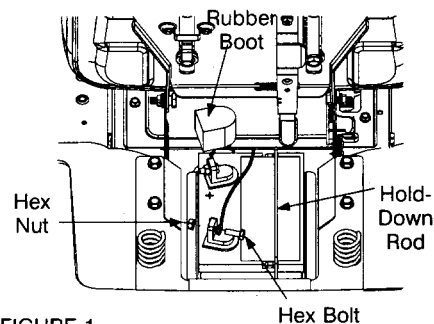

FIGURE 1
- Make certain the hold-down rod is in position over the battery, securing it in place. See figure 1.